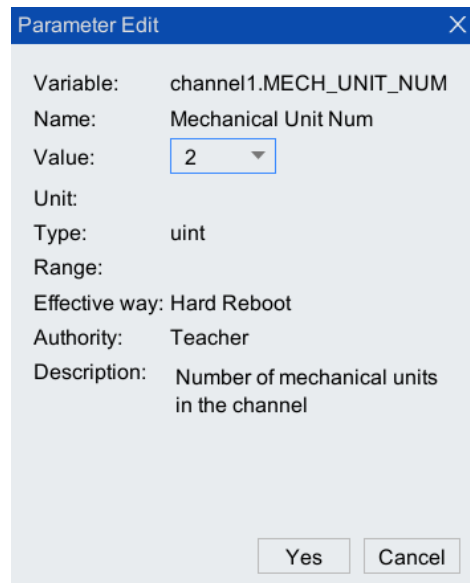

Figure 4-5 Number of mechanical units configuration interface
Step 7. Click <Edit>, and the dialog box shown in Figure 4-5 will pop up. Configure the parameter in [Value] to 2 (see Table 4-3 for parameter description), click <Yes>.